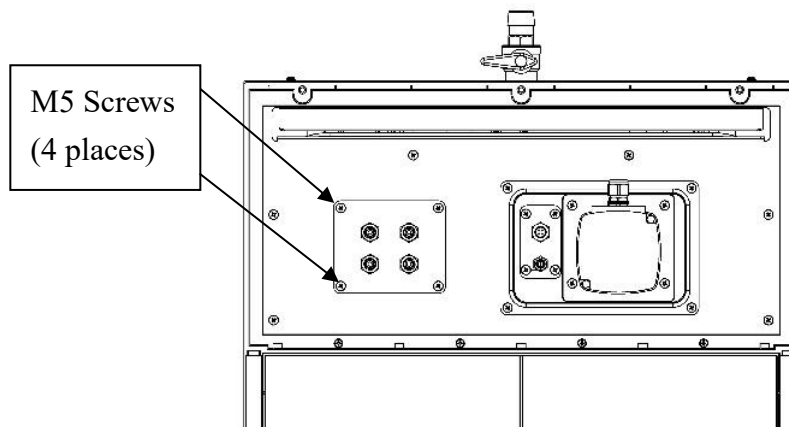

Figure 11 – Top View of the SCA with the Top Cover Removed
- e. Remove the four M5 screws holding the Heater Assembly and ground wire (See Figure 11).